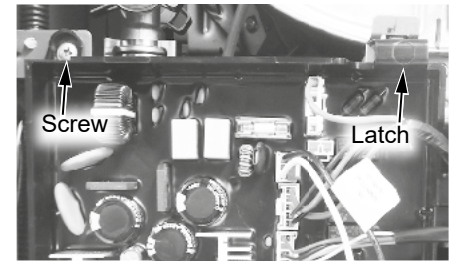

Figure 2 - Control board location
- 6** Locate the screw securing the control board panel as shown in Figure 2. Use a Phillips screwdriver to remove the screw and place it aside in a safe place for reinstallation.